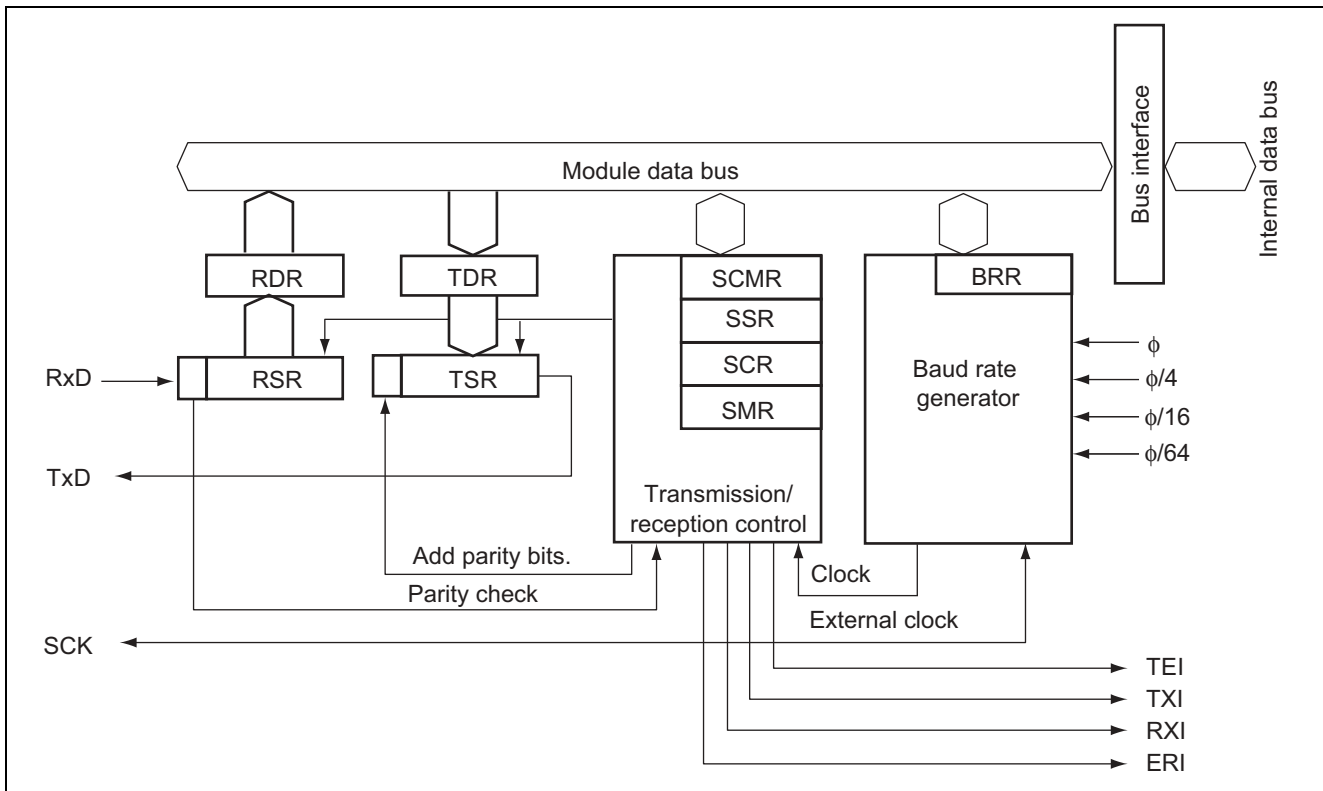

Figure 2 Block Diagram of Simultaneous Serial Data Transmission/Reception Function in Asynchronous Mode
1. Figure 2 shows a block diagram of the serial communication interface (SCI), and the following is the description for the block diagram: